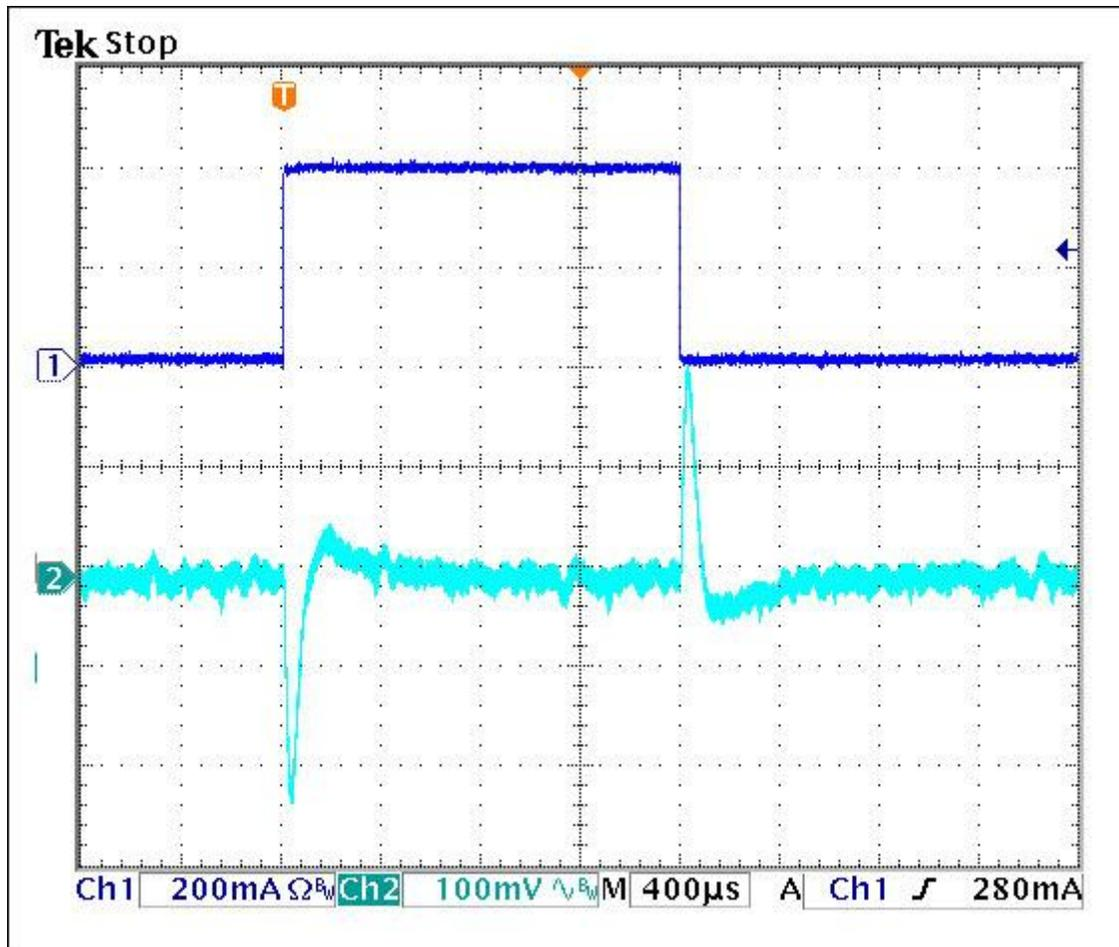

Figure 4. Transient response when load steps from 5mA to 400mA.
**Figure 4** displays the load transient response when the load is stepped from 5mA to 400mA, and then dropped back to 5mA again. The output transient spike is about 240mV. The input is 24V.